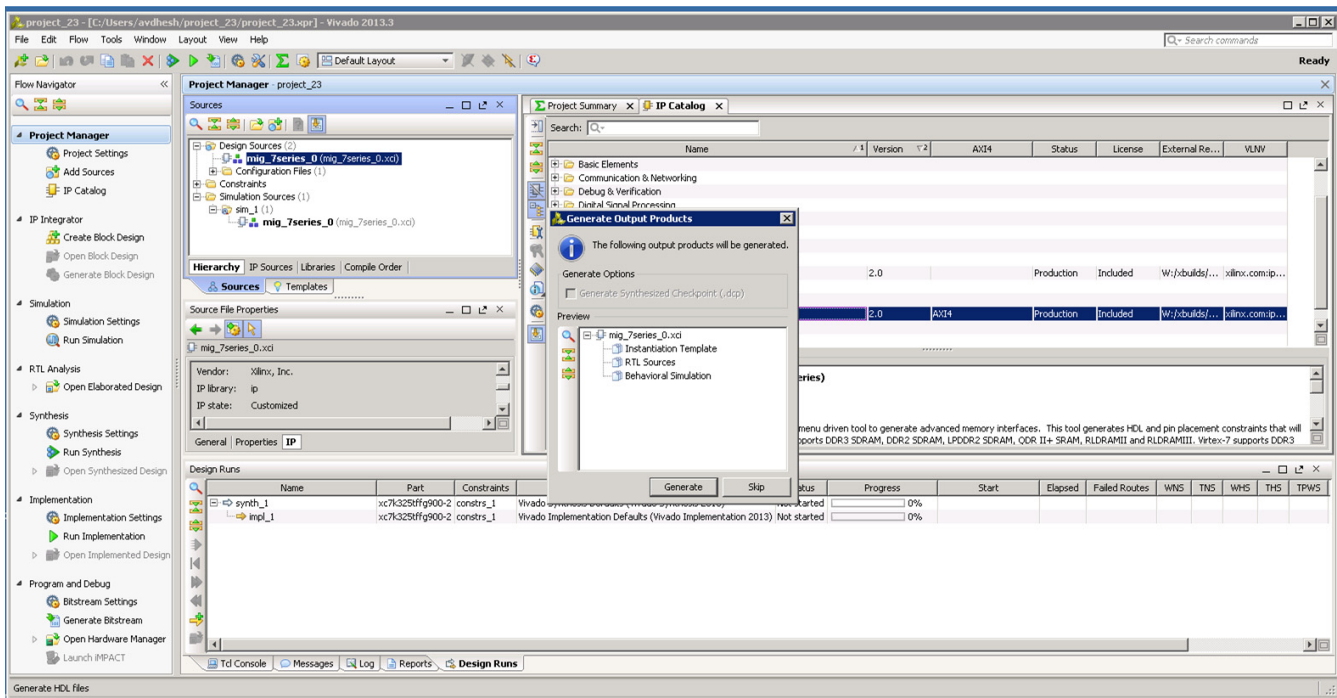

Figure 3-30: Generate Window
7. Clicking **Generate Output Products** option brings up the Manage Outputs window (Figure 3-30).